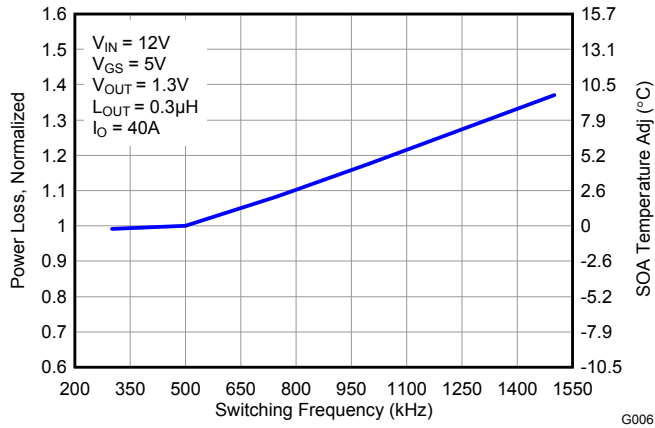

Figure 6. Normalized Power Loss vs Switching Frequency
- Normalized Power Loss for switching frequency  $\approx 1.11$  (Figure 6)
- SOA adjustment for switching frequency  $\approx 2.8^\circ\text{C}$  (Figure 6)